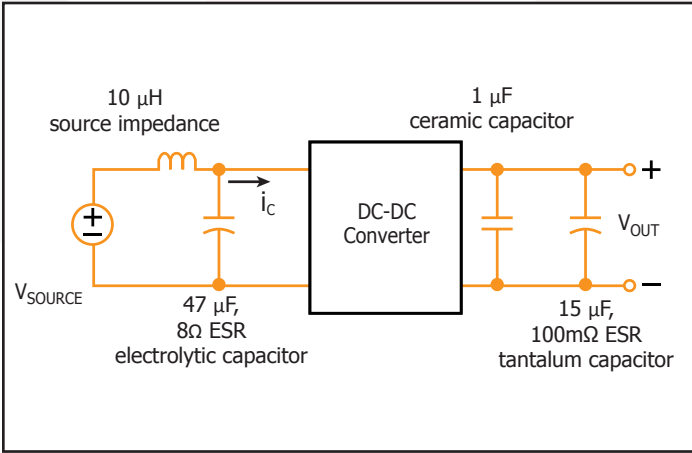

Figure 17: Test set-up diagram showing measurement points for Input Terminal Ripple Current (Figure 9) and Output Voltage Ripple (Figure 10).
**Figure 9:** Input terminal current ripple,  $i_C$ , at full rated output current and nominal input voltage with SynQor MCOTS filter module (50 mA/div). Bandwidth: 20MHz. Timescale: 1.00μs/div. See Figure 17.
**Figure 10:** Output voltage ripple,  $V_{out}$ , at nominal input voltage and rated load current (50 mV/div). Load capacitance: 1μF ceramic capacitor and 15μF tantalum capacitor. Bandwidth: 20MHz. Timescale: 1.00μs/div. See Figure 17.